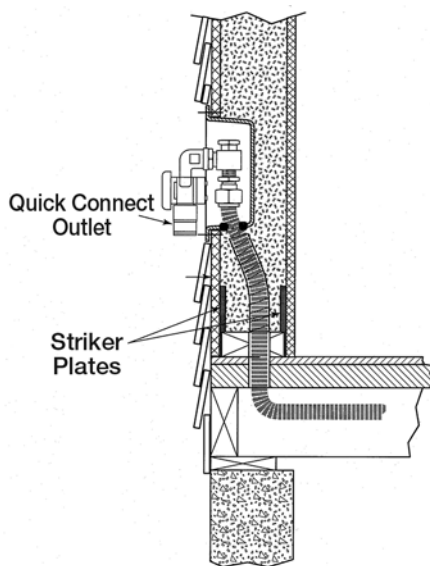

Fig. 4-61
- a) Barbecue Grills – Movable grills shall be connected using an approved outdoor appliance connector which shall be attached to the CSST system either at a termination fitting or a quick disconnect device as shown in the figure (Fig. 4-61).